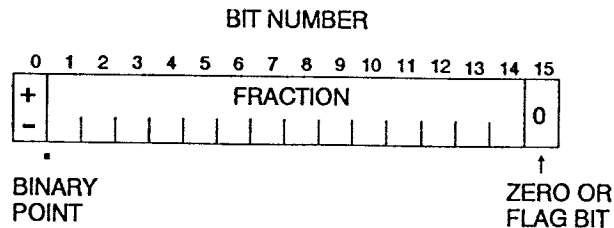

Figure 2-6 Format of Coordinate Data
- (a) Decide what portion of the image is to be sent to the output device and find the upper left and lower right corners of a rectangle enclosing this portion. Describe these corner points as pairs of coordinates with each coordinate expressed as a fraction of the full extent of the virtual screen according to the standard coordinate format illustrated in Figure 2-6.